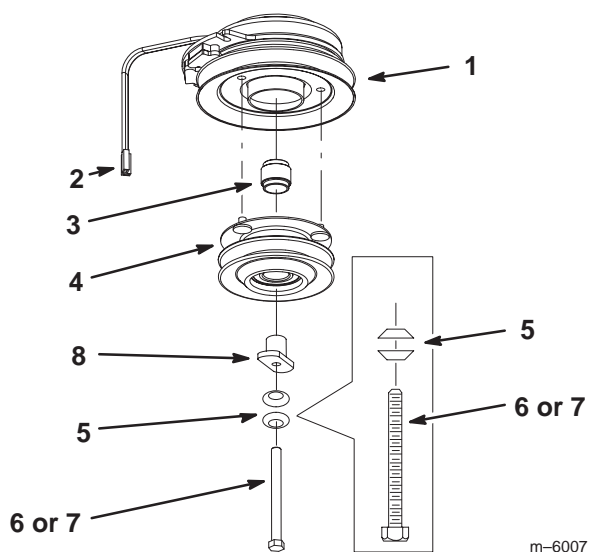

Figure 6
3. Install the new pulley spacer into the clutch (Fig. 6).
4. Install the drive pulley assembly into the three holes drilled into the clutch pulley (Fig. 6).
5. Install the drive spacer into the drive pulley assembly (Fig. 6).
6. If the machine has a Kawasaki® engine, then install the clutch with a bolt (7/16 x 4–1/2 inch) and 2 existing curved washers (Fig. 6).
7. If the machine has a Kohler® engine, then install the clutch with a bolt (7/16 x 4 inch) and 2 existing curved washers (Fig. 6).
8. Torque the clutch bolt to **55 ft-lb (75 N•m)** (Fig. 6).